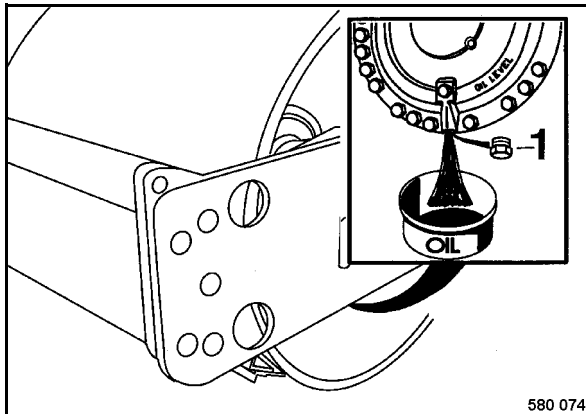

Fig. 142
- Move the drum until the drain plug 1 (Fig. 142) is in lowest position.